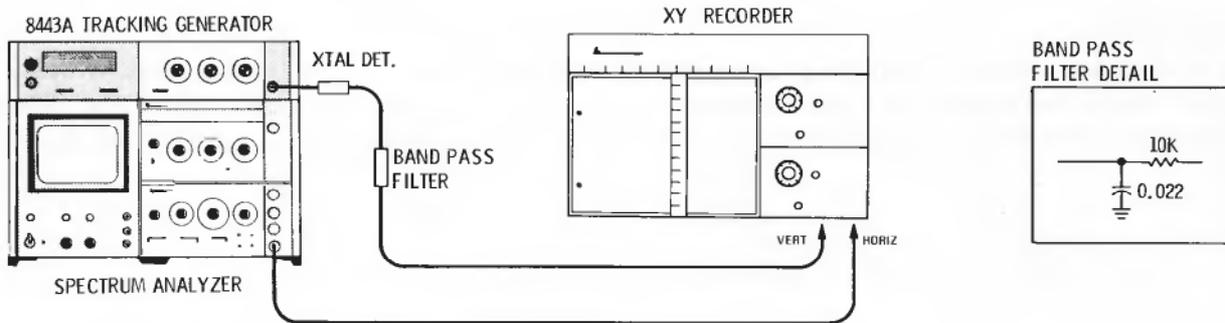

Figure 4-3. Amplitude Accuracy Test
1. Connect the equipment as shown in Figure 4-3 and set the controls as follows: